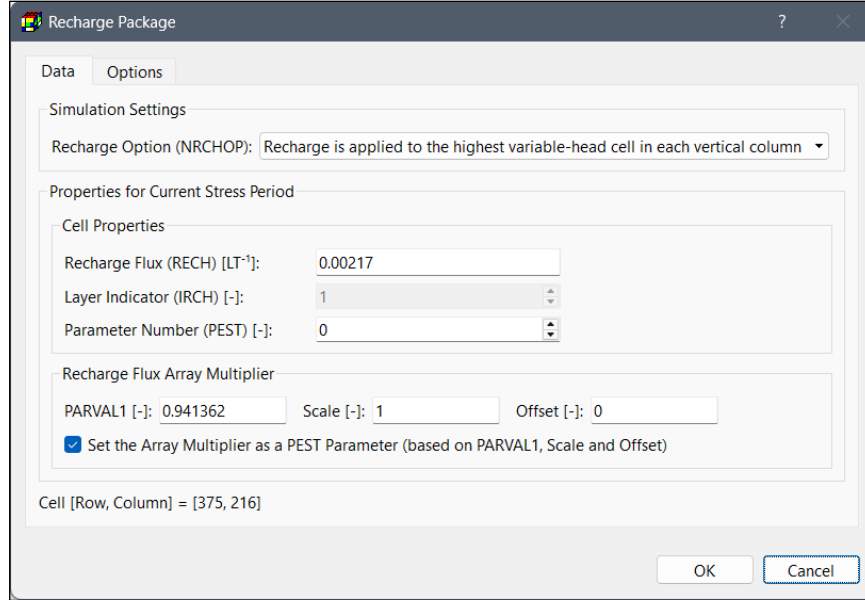

Figure 81. The Recharge Package dialog box
1. **All input methods:** Figure 81 shows the dialog box for specifying cell, vertex, or polygon properties.